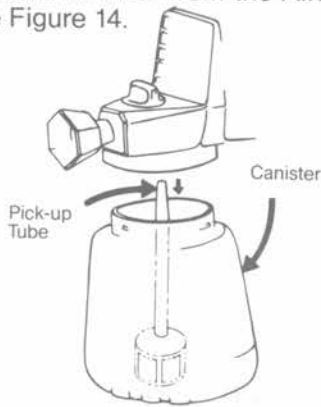

Figure 14
1. Remove canister from the Airless Sprayer. See Figure 14.